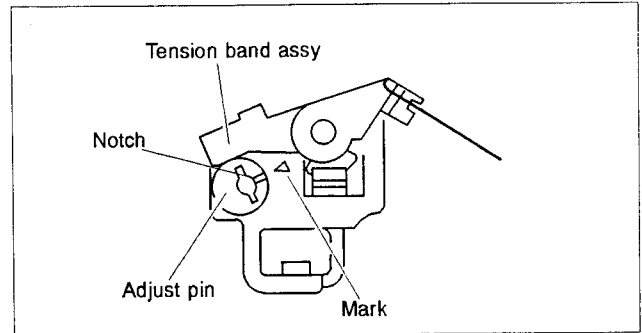

Fig. 2-7-6 Tension pole position
- 1) Turn the eccentric adjust pin to align the notch of the pin with the mark as shown in Fig. 2-7-6.